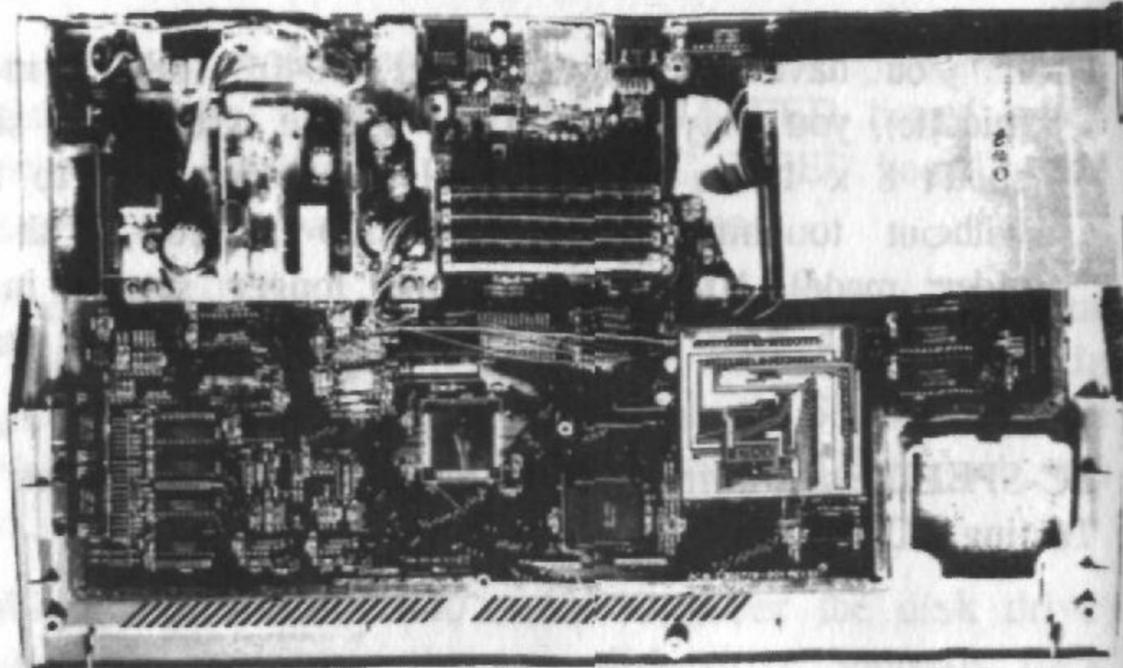

Figure 4: System board of a 1040 STE.
5. You should now see the system board as illustrated (Figure 4).
8. Now carefully check all the joints by eye. Insert the second 64 Pin IC socket onto the newly soldered one. Take the PC-SPEED board and hold it carefully above the IC socket. It should be positioned so that the mark on the 68000 matches the mark (black dot) on your PC-SPEED board, as illustrated in figure 4.